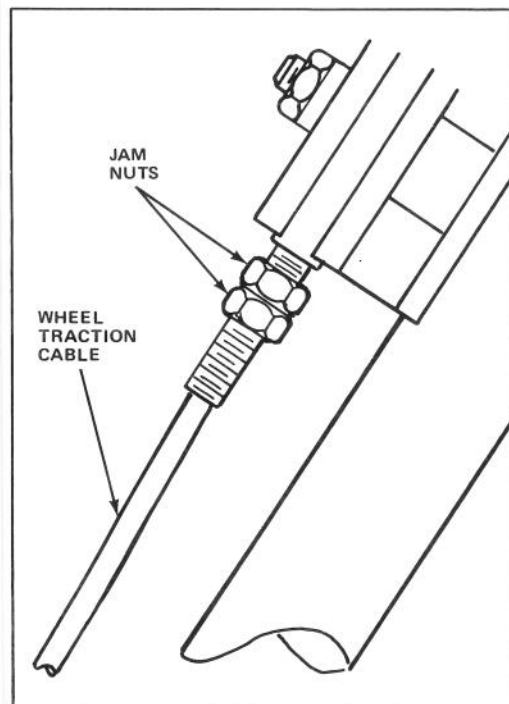

Figure 19
2. Loosen bottom jam nut on wheel traction cable (Fig. 19).